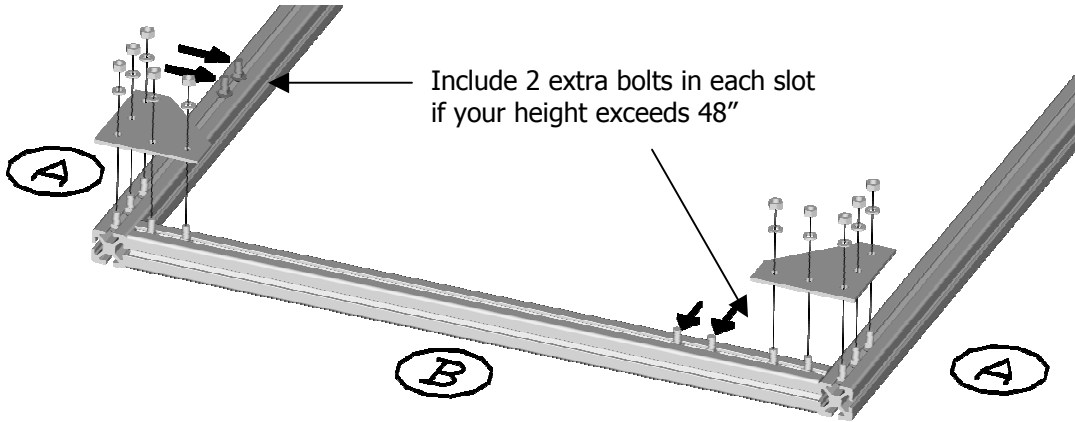

Figure 5-A
5. Repeat the same procedure for the bottom of the support assembly by mounting corner bracket "1" at each bottom corner (see Figure 5-A). Include 2 extra carriage bolts in framing member A and B if you have an equipment screen height that exceeds 48". These will be used to mount cross member "C" on taller units.
6. Fit bracket "2" (45 degree cross bracket) to each end of framing member "C" (see Figure 5-A). Hand tighten the nuts. Align the assembly "C" over the bolts in framing member "A" and "B" and apply one washer and nut to each bolt. Framing member "C" should be at a 45 degree angle and touching both adjacent framing members after assembly. Tighten all bolts with a ratchet or box end wrench.